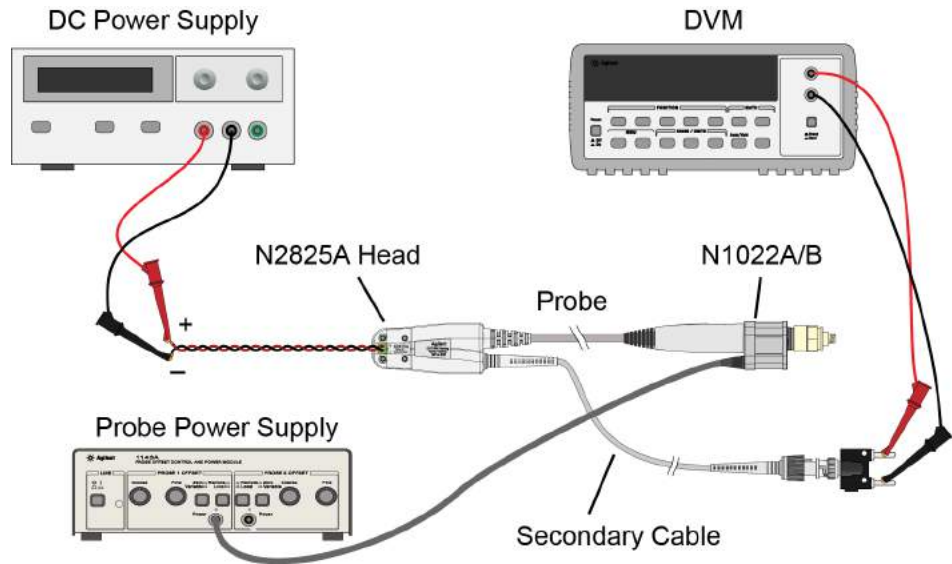

Figure 54 Test Setup for Measuring V_{out}
- 4 Move the multimeter's leads to the banana plug on the output of the N1022A/B as shown in Figure 54.
- 10 Connect the multimeter's leads to the banana plug on the output of the N1022A/B as shown in Figure 54 on page 108.